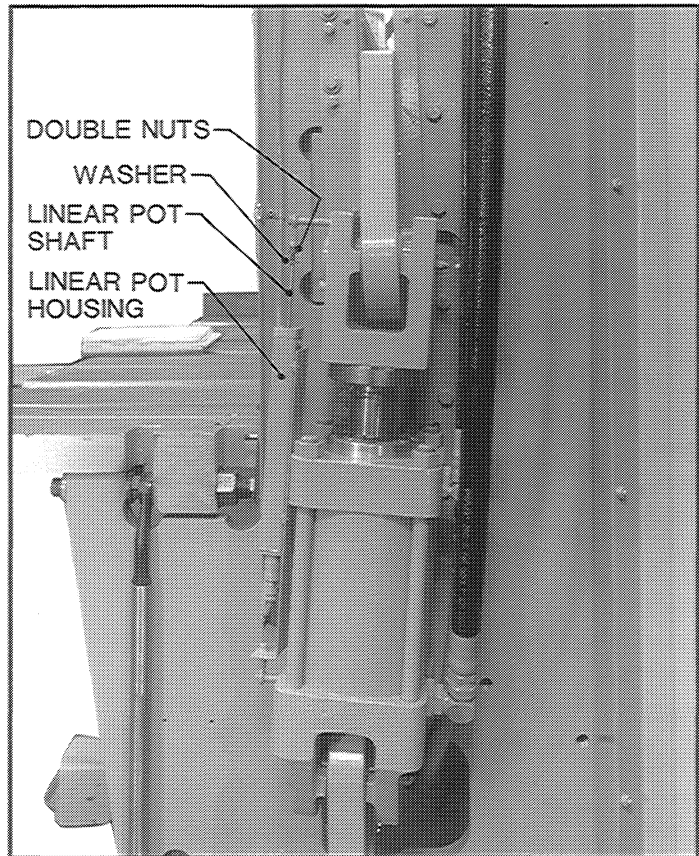

FIGURE 9-56 - Measure linear pot shaft
- D. Measure and record the distance between the top of the right linear pot housing and the washer on the linear pot shaft. See Figure 9-56. If there is no washer, measure to bottom of the double nuts.